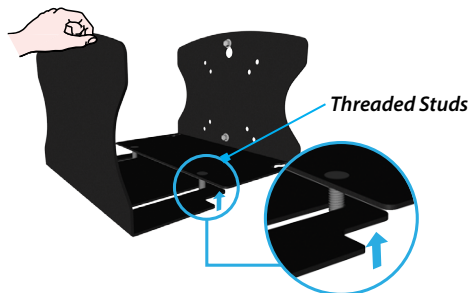

Figure 10
1. Insert the **Sliding Slots** of the **Sliding Bracket** into the **Threaded Studs** on the **Wall Mounting Bracket**. Figure 10.